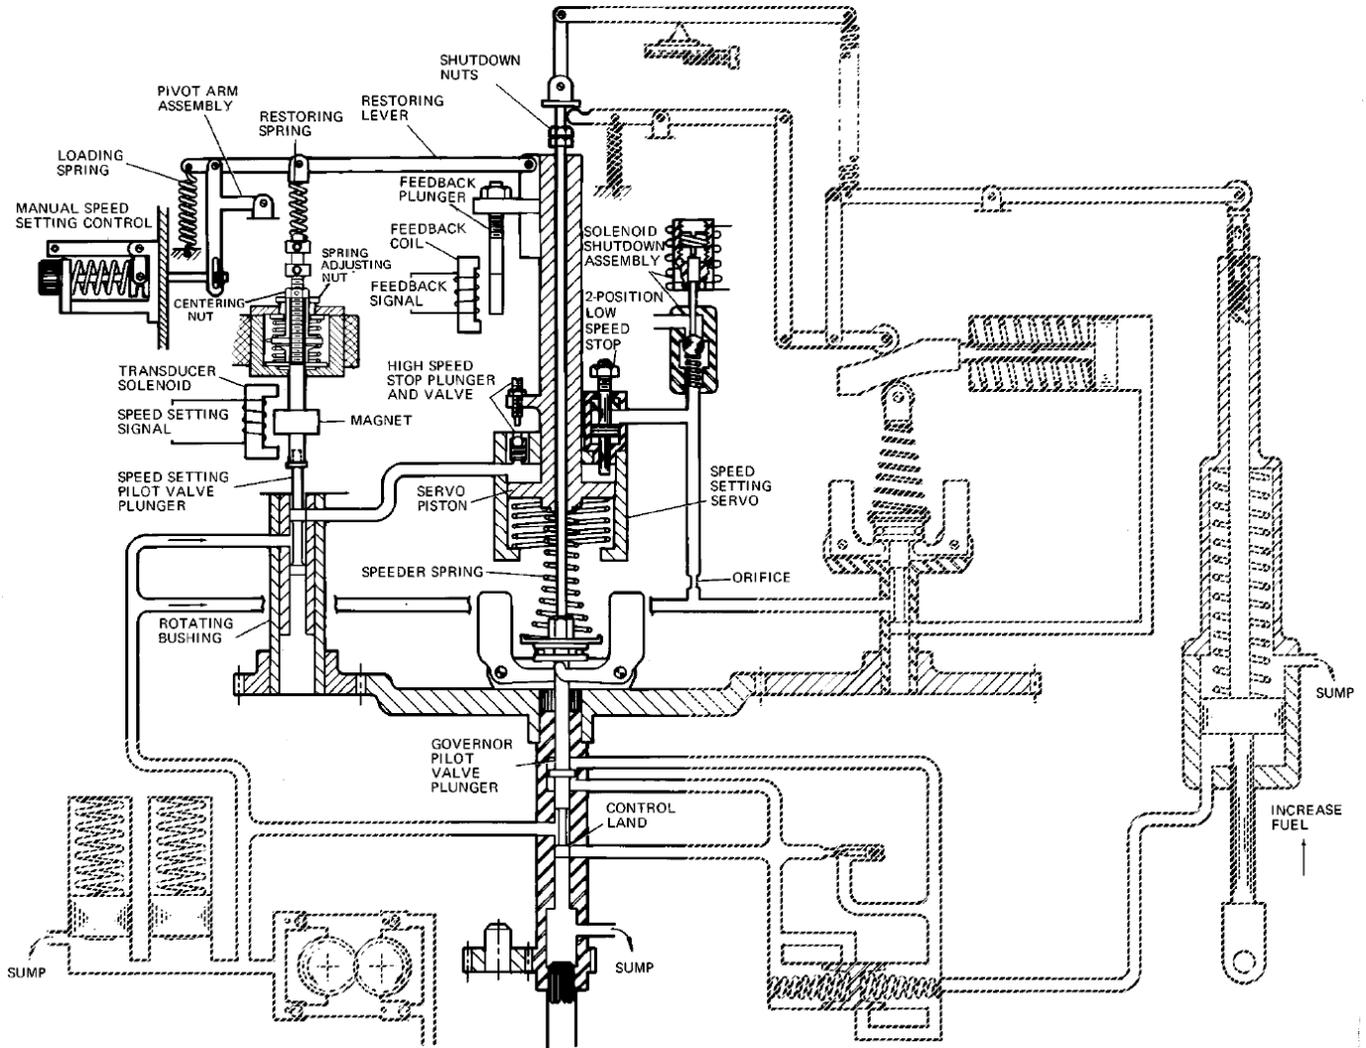

Figure 2. Functional Schematic Diagram of Electronic Speed Setting System for PG Governors
With pressure oil above the two position low speed stop piston (see Figure 2-1), the piston plunger is forced down to a position where it stops the speed setting servo piston from moving below idle or low speed. The solenoid assembly as shown in figure 2 is arranged to relieve pressure oil from the two position low speed stop (speeder spring power cylinder assembly) when the solenoid is energized. (The solenoid may be arranged to relieve pressure oil when de-energized.) As the solenoid is energized, the plunger moves down to unseat the valve ball. The pressure oil holding the low speed stop plunger, thus holding the servo piston at low or idle speed, is released to sump and the servo piston moves up to pickup on the shutdown nuts and shut the engine down. (Refer to Woodward manual 36650 for detail description, operation, and adjustment of the solenoid shutdown assembly.)
3. Back off the high speed stop plunger (if required) (see figure 2); adjust the high speed stop screw on the pivot lever to approximately 5 rpm above the desired maximum speed. Adjust the high speed stop plunger to relieve the pressure oil from the area above the servo piston at the new speed setting.